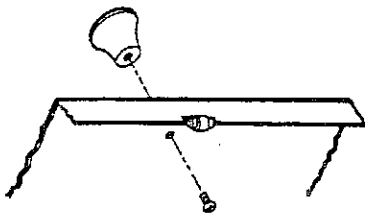

FIG. 10
2. Place door knob on outside of cabinet door. Then place machine screw through hole and into door knob and tighten (Fig. 10)